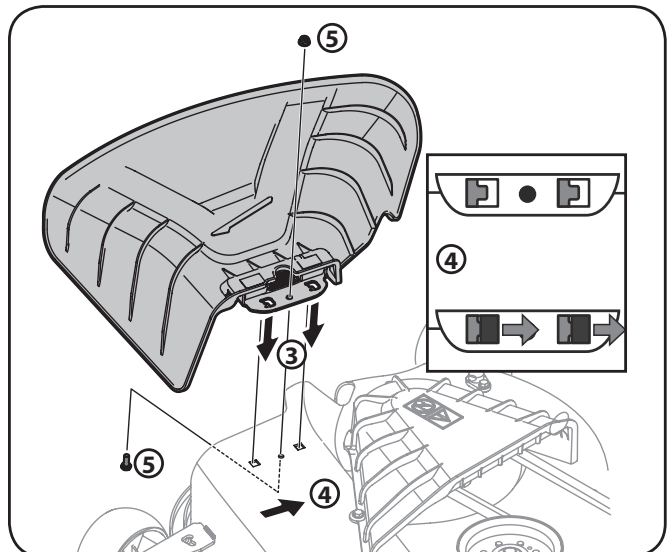

Figure 3-6
4. Place the chute deflector on the deck, be sure to insert the tabs on the chute deflector into the holes on the deck. See Figure 3-6.
5. When the tabs are installed in the deck, slide the chute deflector toward the rear of the tractor until the bolt hole in the chute deflector aligns with the hole in the deck. See Figure 3-6.
6. Secure the chute deflector in place with the flange lock nut and hex screw removed in step 2. Tighten to 102-124 in-lbs. See Figure 3-6.
To install the dash cap, line up the tabs on the dash cap with the holes in the upper dash as shown in Figure 3-6. Slide the tabs into the holes in the upper dash and push forward on the dash cap to lock into place.